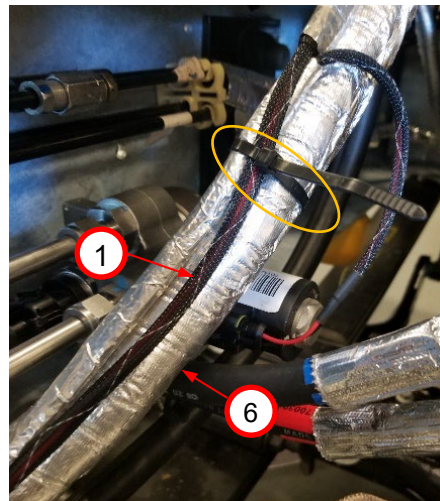

Figure 12.
6. Route fuel system chassis harness (1) along OEM chassis harness (6) along DS chassis frame rail and secure using zip ties (*circled*). Figures 12 and 13